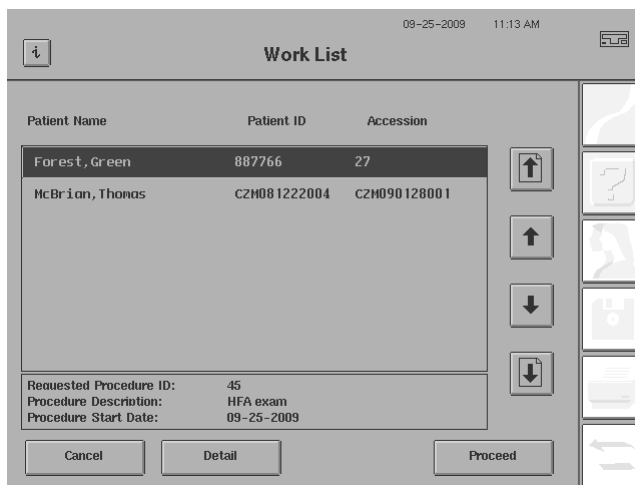

Figure 14.60 Work List Browser Screen – Patient Selected
- 7 From the Work List browser, select the patient you want. Touching an entry on the Work List browser screen selects it (Figure 14.60) and work item information is displayed below the list. Touching an entry a second time de-selects it. During the selection process, you can use the up/down one line and up/down one screen buttons to move through your file listing more rapidly, if your listing is two or more screens in length.